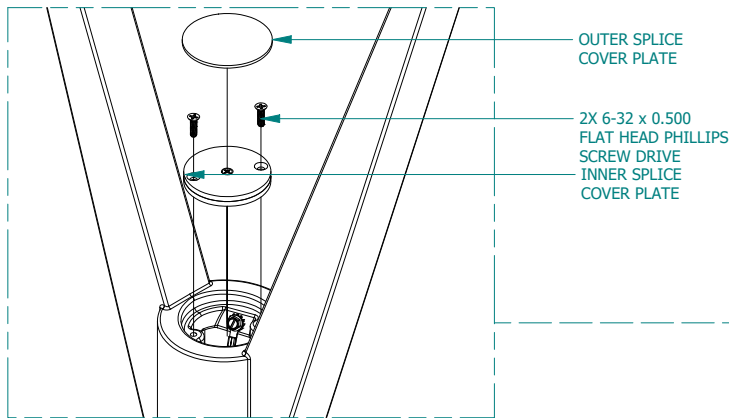

FIGURE 1
4. Reinstall INNER and OUTER SPLICE COVER PLATES as detailed in (FIGURE 1); Installation complete; luminaire can be energized.